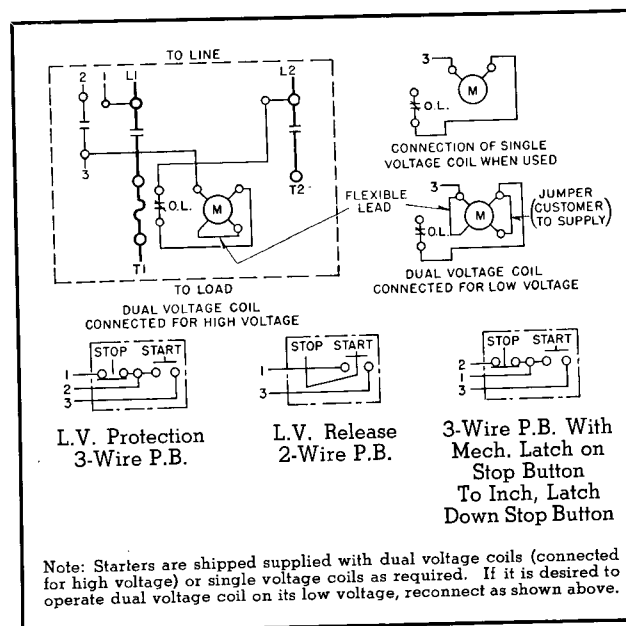

FIG. 2. Wiring Diagram
**THE TYPE N, LIFE-LINESTARTER** \* will give protection against overloads (but not against short circuit currents) when wired in accordance with Fig. 2 and provided with an overload heater selected from the Heater Application Tables.